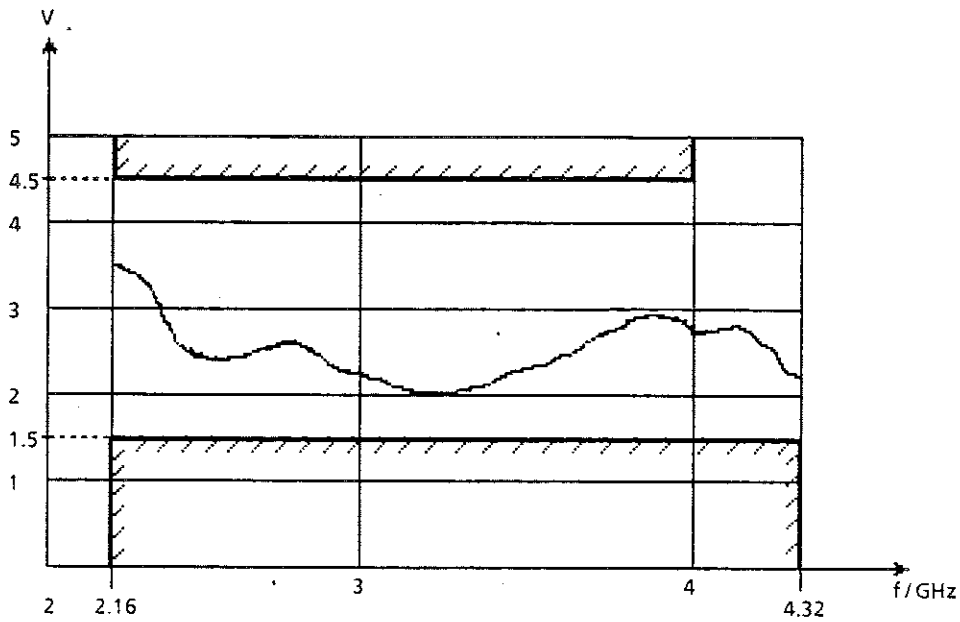

Bild 5-4 Voltage at X25 versus frequency
- Set a frequency on the instrument according to Fig. 5-4.